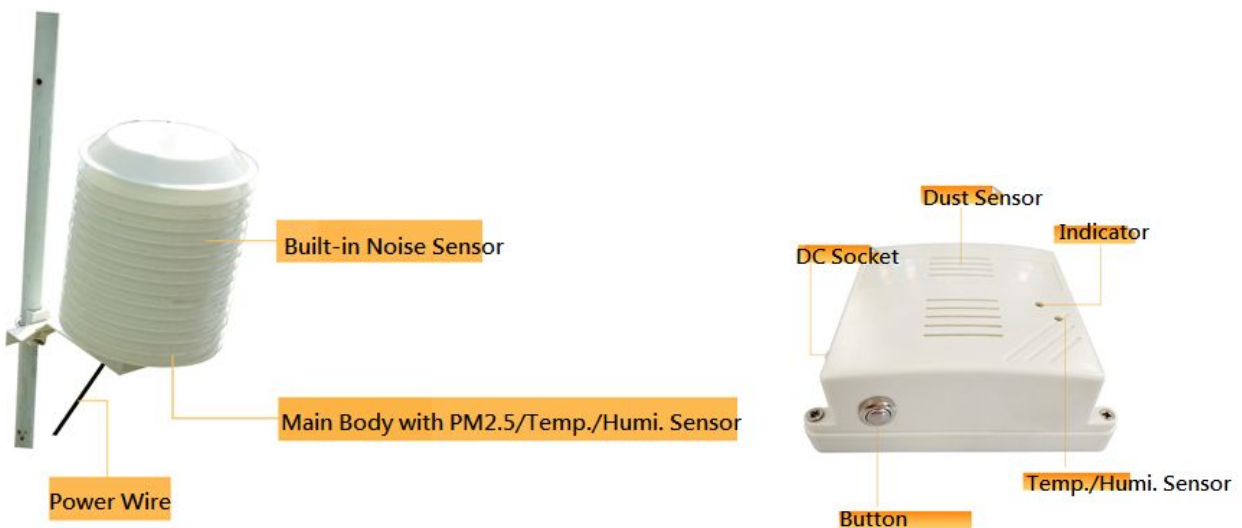

Figure 3
3. Press activation button after loading batteries. (Fig. 3)